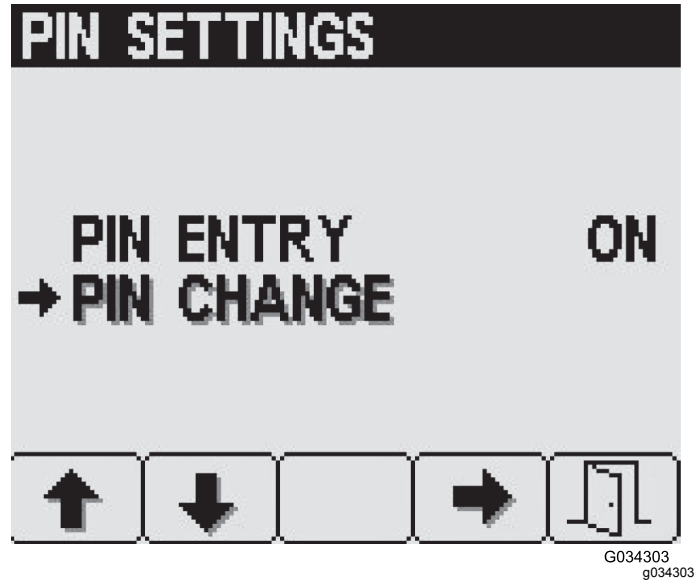

Figure 32
3. From the PIN Settings screen, press button 2 to navigate to the PIN Change option, then press button 4 to select PIN Change (Figure 32).